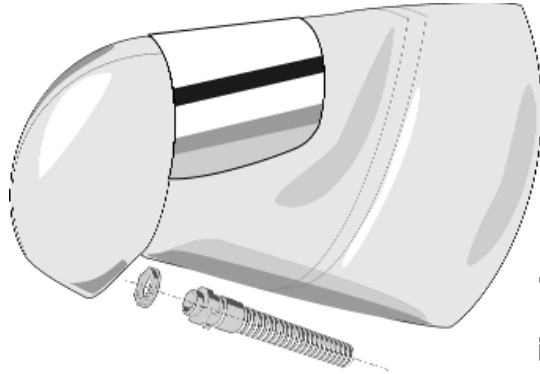

Fig. 4
3.2 OptiHood Full (Fig. 4 - 6)